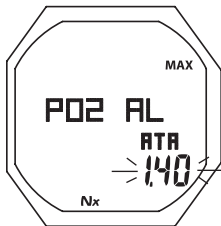

Fig. 47 - SET PO2 AL
**Set PO2 Alarm**, information includes (Fig. 47):